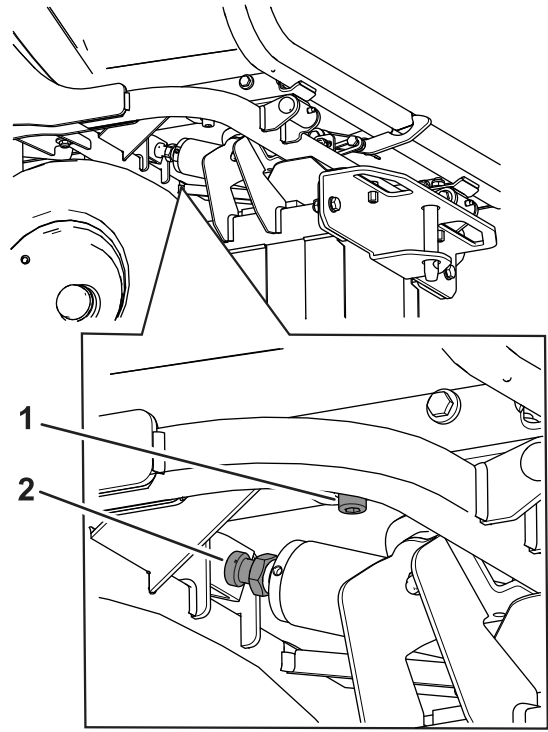

Figure 108
2. If you need to get the desired movement of the hopper, loosen the safety nut at the top of the hydraulic cylinder rod (Figure 108).